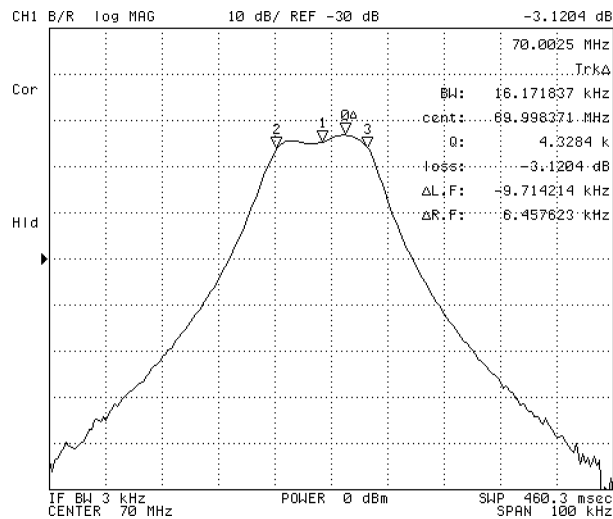

Figure 8-11. Bandwidth Measurement Using Width Function
As shown in Figure 8-11, a pair of sub-markers appear on both sides of the reference marker, being lowered by the specified number of levels; also, another sub-marker is displayed in the middle between the two sub-markers. The bandwidth (BW), center frequency (cent), Q factor (Q), insertion loss (loss), and left and right hand bandwidth from the center frequency ($\Delta L.F$ and $\Delta R.F$) are displayed at the upper right corner of the grid.